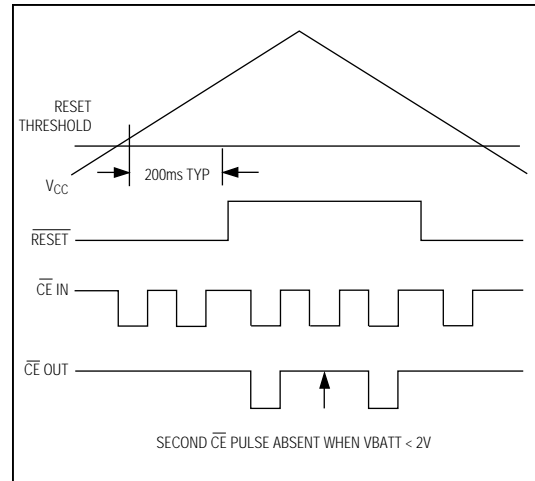

Figure 11. Backup-Battery Monitor Timing Diagram
The MAX791 low-battery voltage function monitors VBATT. Low-battery detection of  $2.0V \pm 0.15V$  is monitored only during the reset-timeout period (200ms) that occurs either after a normal power-up sequence or after the  $\overline{MR}$  reset input has been returned to its high state. If the battery voltage is below 2.0V, the second CE pulse is inhibited after reset timeout. If the battery voltage is above 2.0V, all CE pulses are allowed through the CE gate after the reset timeout period. To use this function, after the 200ms reset delay, write 00 (HEX) to a location using the first CE pulse, and write FF (HEX) to the same location using the second CE pulse following RESET going inactive on power-up. The contents of the memory then indicates a good battery (FF) or a low battery (00) (Figure 11).